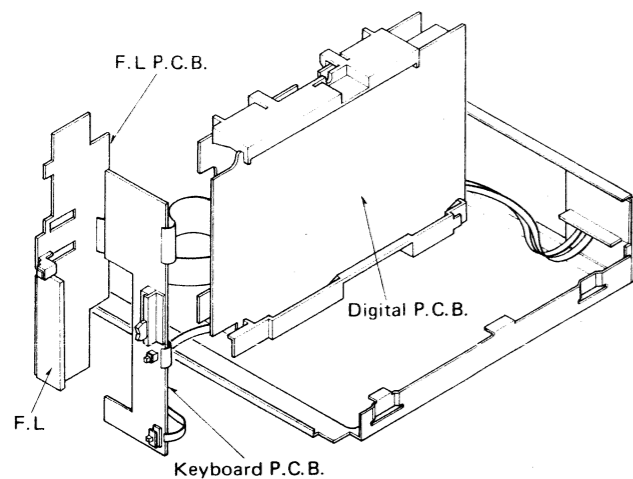

Fig. 29
5. Shift it as in Fig. 29 and check.
- (3) Shift it as in Fig. 29 and check.